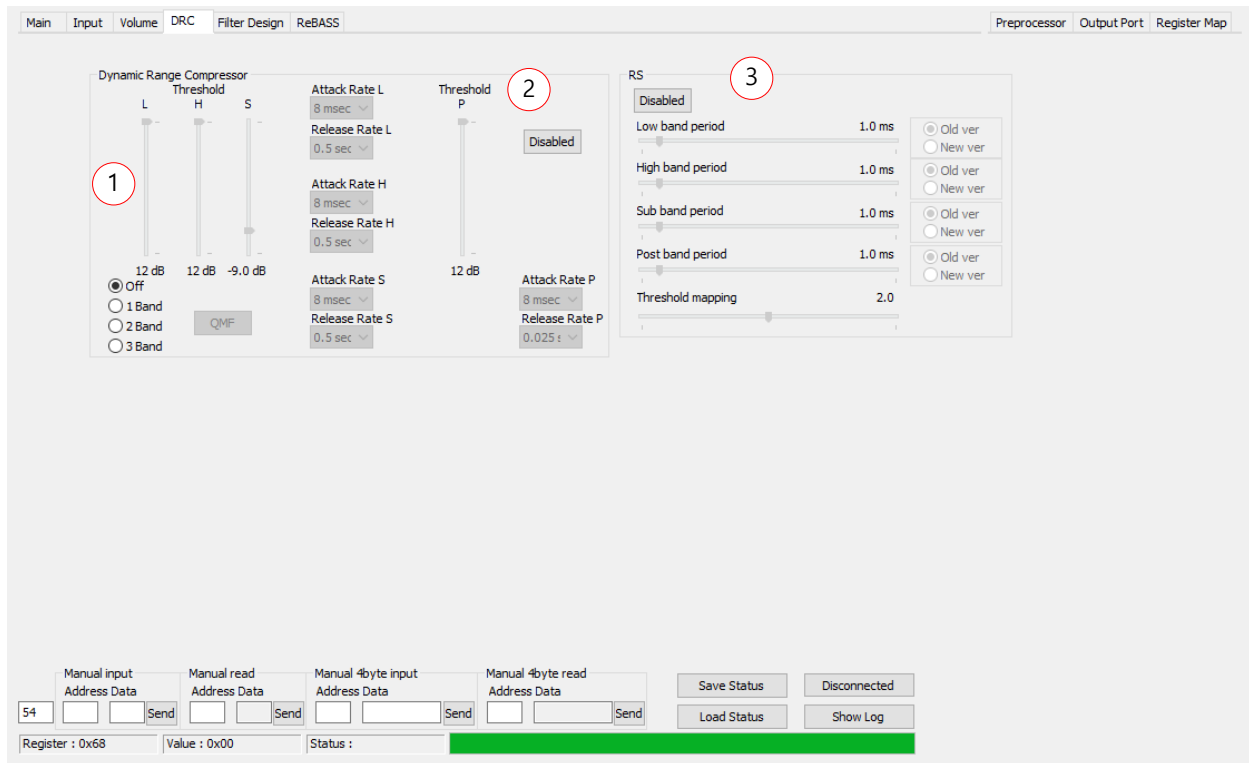

Figure 10. DRC
Figure 10 shows the display when 'DRC' tab is clicked in the main window.
① DRC(Dynamic Range Compression)
DRC is a function that prevents clipping output. It also protect speakers from damage caused by an over powered signal. Figure 10-① is a section for DRC parameters. Please refer to WA20-6829B datasheet.
- ① Threshold : signal level to be limited
- ② Attack rate : decay time to Threshold level
- ③ Release rate : restoration time to unaffected input level